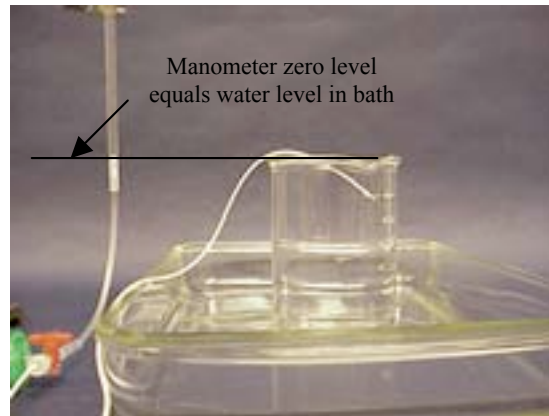

Figure 7
3. The water column should stop at the zero level of the manometer (figure 7).